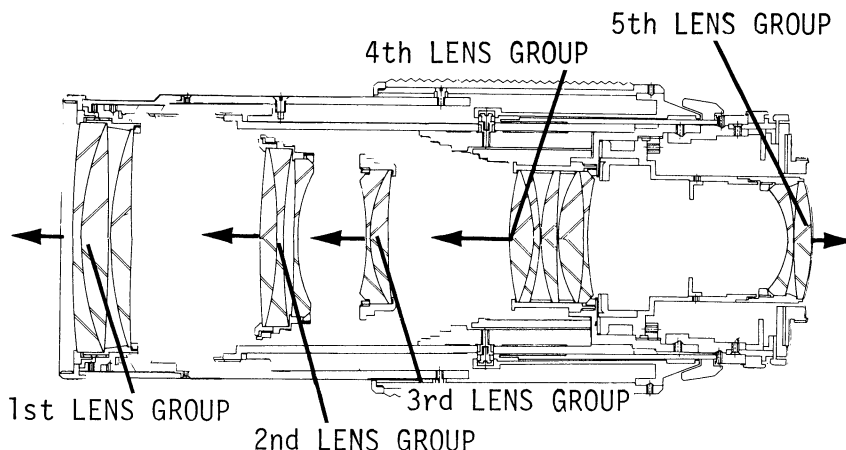

Fig. 57
9.1.6 Use the following Vivitar tools as indicated to remove and replace Lens Groups. (Fig. 57)